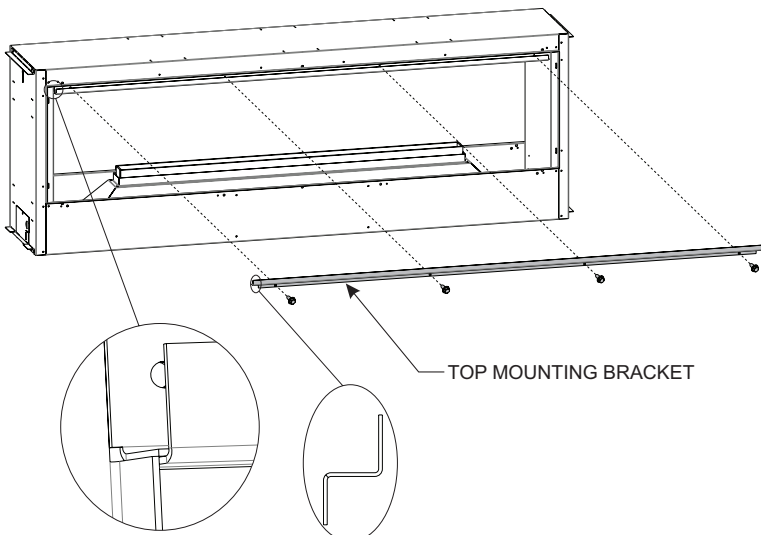

Figure 2
3. Locate top mount bracket shown in **Figure 2** and attach with four provided #10 x 1/2 inch screws as shown.